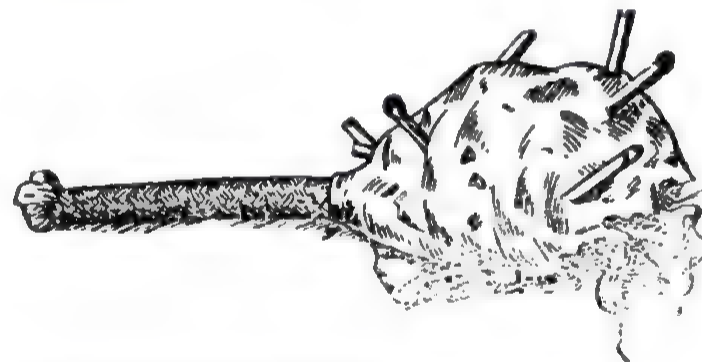

Figure 8. How to conduct arson with matches
**First method:** Take 90–100 matches (two boxes) and spread them out on a piece of cheesecloth or a regular rag. Puncture the cheesecloth or rag in many places to let air in. Saturate the cloth with any oil. Put a hemp wick inside of the matches (Figure 8). Calculate the necessary length for the wick – a hemp wick burns at the rate of two centimeters per minute. Put a piece of cloth or oakum saturated with oil around the hemp wick to reinforce the fire. Ignite the wick (it will burn smoldering without flame) and move away. The fire will start in your absence.